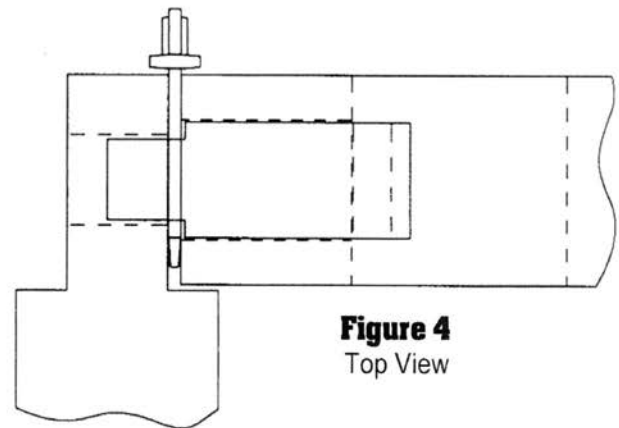

Figure 4
4. Insert compression key into the keyslot. See **Figure 4**.